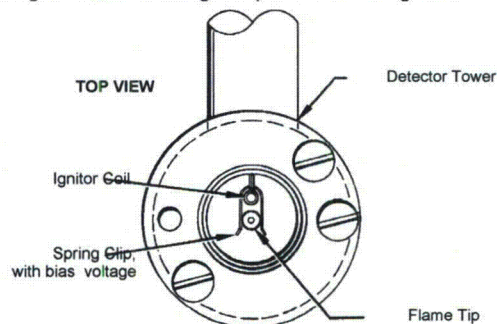

Figure 38: Orientation of Igniter Probe Elements in FID Tower
6. Carefully insert the igniter probe into the lower arm of the detector tower. Align the probe key with the tower arm slot. Check the orientation of the igniter elements by looking down through the top of the detector tower. The spring clip should slip around the flame tip and make good contact (see Figure 38, below). The igniter coil must not touch the flame tip assembly nor be positioned directly above it. Tighten the knurled nut to secure the probe.